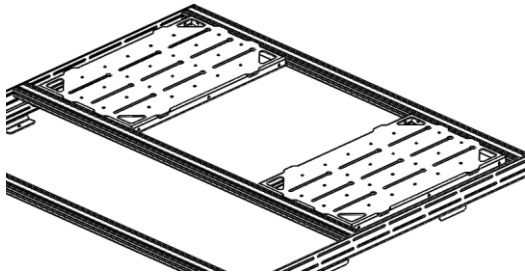

Figure 1: 27" x 17" Panel Orientation #1 – fits 1, 2, or 3 panels across
2. Set flooring panels onto crossbars. Adjust the crossbars as needed. Reference **Figure 1** -